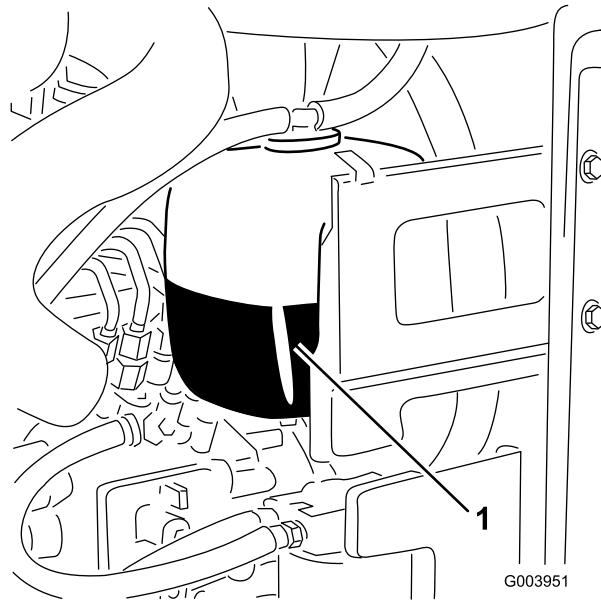

Figure 30
- Check the level of coolant in the expansion tank (Figure 30).